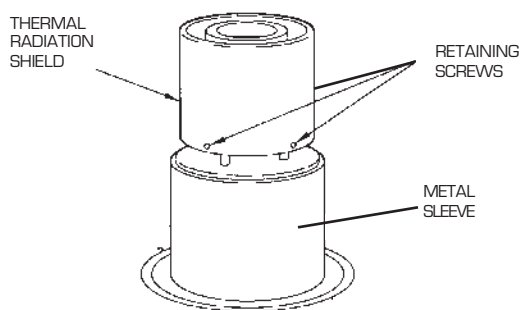

Figure RCS.3
3. Remove the three (3) screws that secure the radiation shield to the RCS-DSC cell assembly and remove the radiation shield, refer to Figure RCS.3.